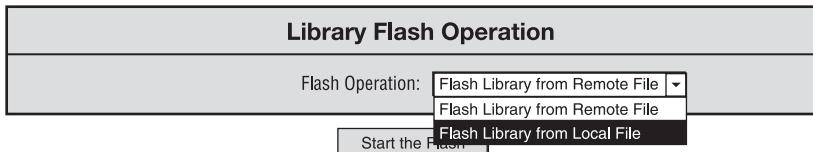

Figure 76 Updating firmware using the Remote Management Interface
4. Select **Flash Library from Remote File** or **Flash Library from Local File** (see Figure 76).